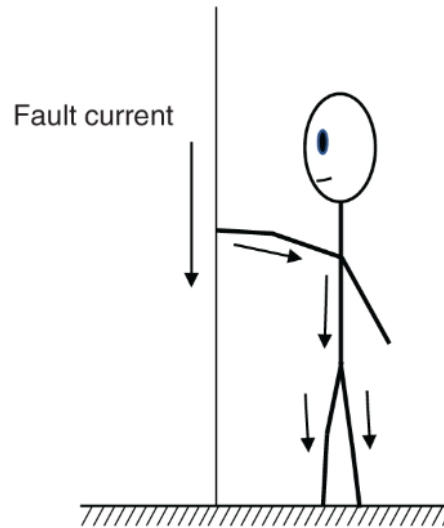

Figure 10.4 Current through human body due to touch potential.
- Touch potential is the potential difference between the hand and feet of a person whenever the person touches a conducting element. In this situation, current flows through the arm, body, and legs of the person to ground as shown in Figure 10.4.